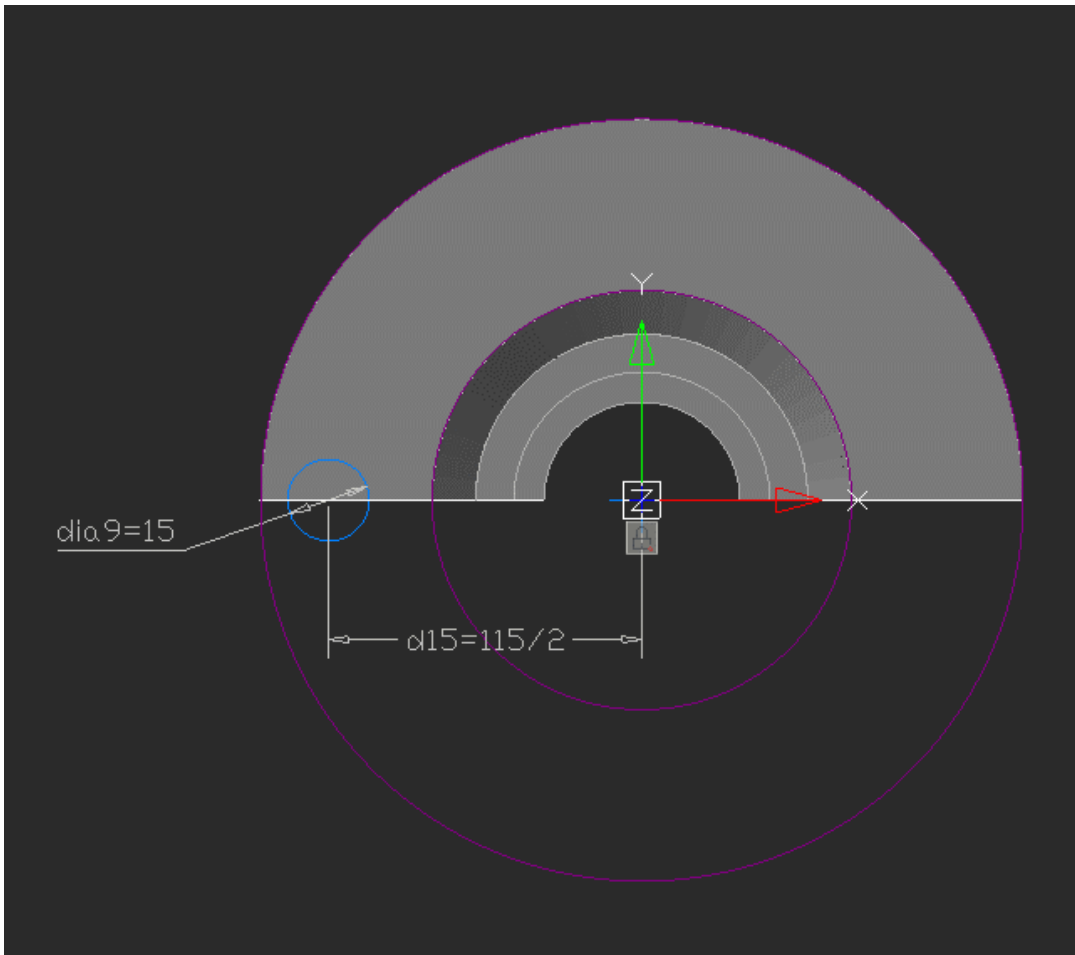

Fig. 27. The sketch of the $\varnothing 15$ mm holes
8.1. Sketch a hole at the end of the largest step. Use snaps to position the hole accurately in relation to the center (Fig. 27).